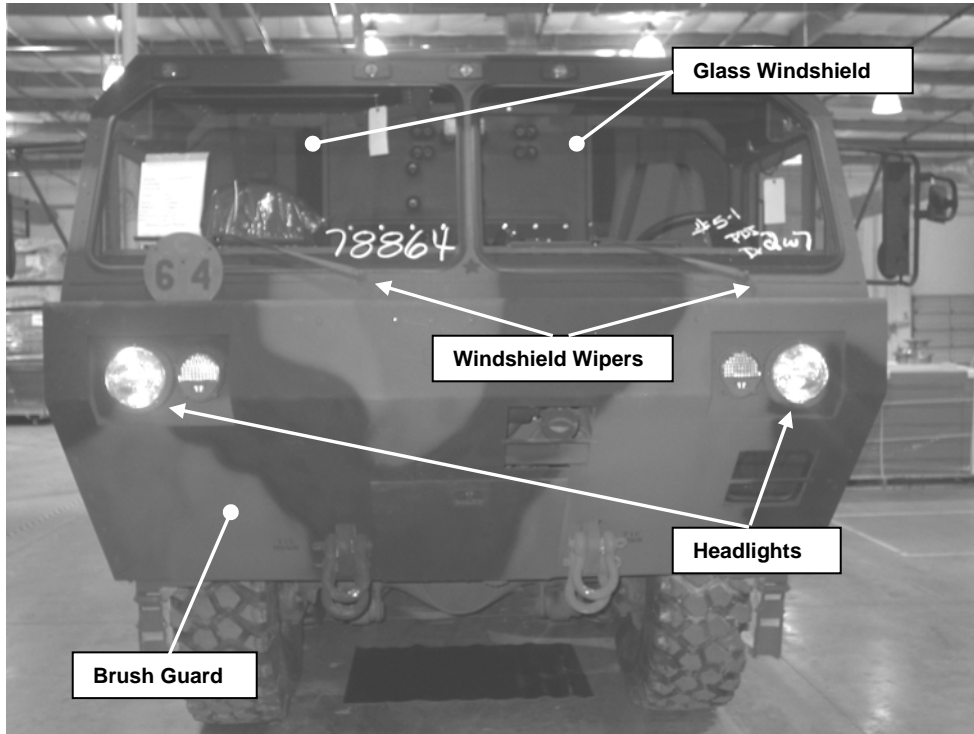

**Figure 4. Cab Step.**
- c) Remove the right and left Cab Steps mounted under the cab. This is done by removing two bolts and disconnecting the link that is attached to the bottom of the cab (see Figure 4).